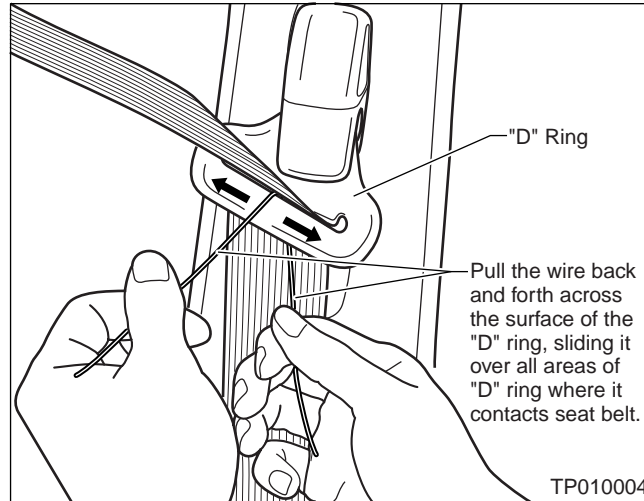

Figure 7
4. Pull the wire back and forth across the surface of the "D" ring, sliding it over all areas of the "D" ring where it contacts the seat belt (see Figure 7) until all residue is removed.